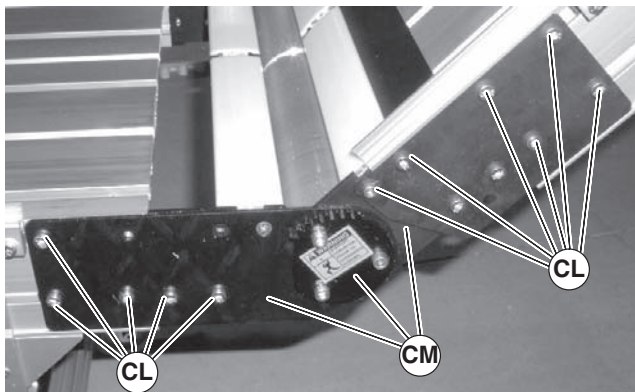

Figure 81
3. On one side of knuckle, remove screws (Figure 81, item CL) and knuckle plate assembly (CM).